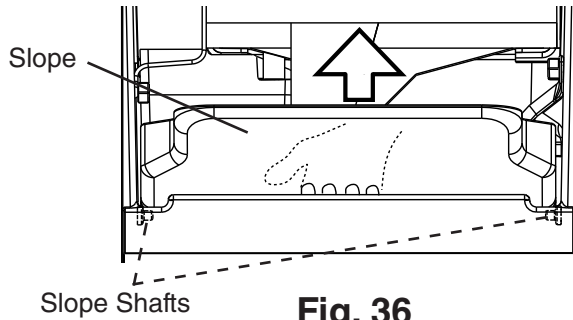

Fig. 36
2. Remove the slope from the storage bin by carefully bending it in the center and releasing it from the 2 slope shafts. See Fig. 36.